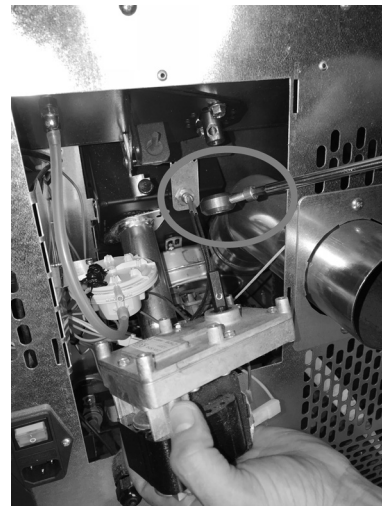

Fig. 79 - Gear motor removal
- Remove the gear motor by loosening the locking screw (see **Fig. 79**).